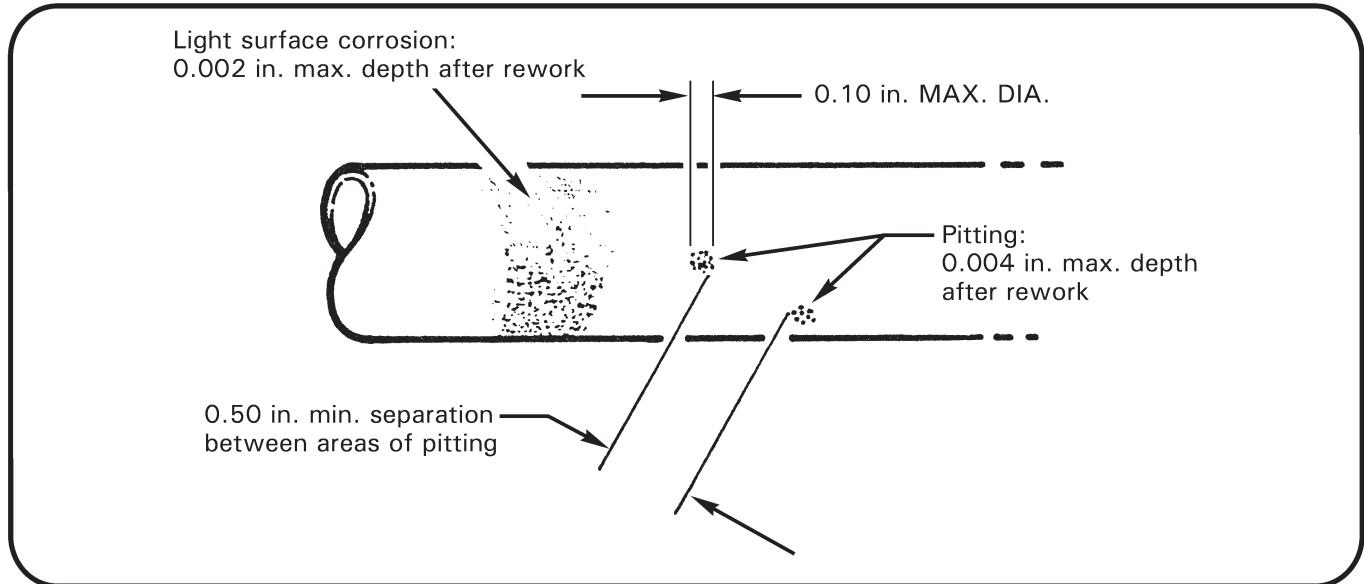

FIGURE 2-16 UPPER FRAME CORROSION REMOVAL LIMITATIONS
- a. Polish out light surface corrosion on frame members using Scotchbrite or 400 grit wet-or-dry sandpaper subject to dimensional limitations shown in Figure 2-16.
- b. Polish out corrosion pitting using 320-grit wet-or-dry sandpaper subject to dimensional limitations shown in Figure 2-16.